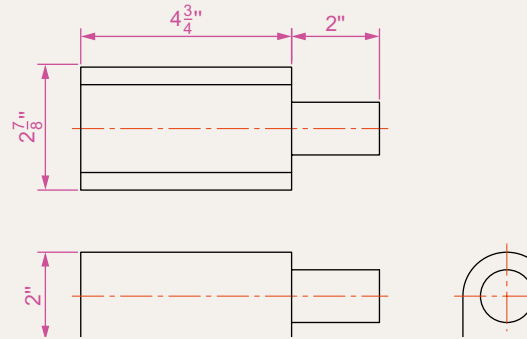

Fig. 7.27 Exercises 2 and 3
2. Fig. 7.27 is a first angle orthographic projection of the other part of the fitment. Construct a three-view third angle orthographic projection of the part.
3. Construct an isometric drawing of the part shown in Fig. 7.27.